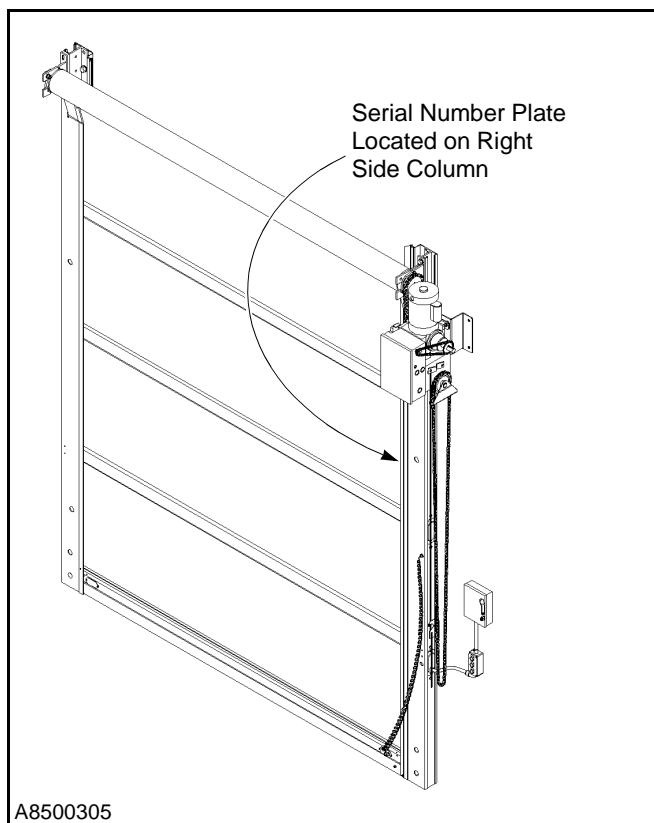

Figure 86
3. To ensure the correct parts are shipped, please include the serial number of your door with the order. The serial number is located inside one of the side panels. (See Figure 86.)